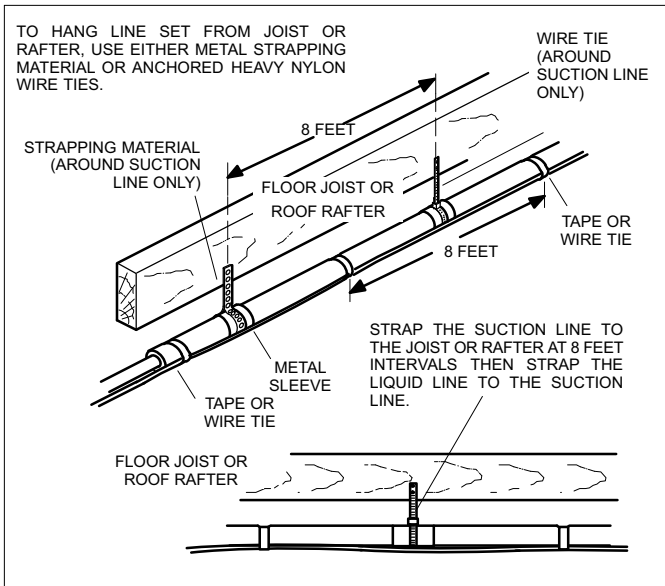

Figure 16. Refrigerant Line Set: Installing Horizontal Runs
- Installation of **line set on horizontal runs** is illustrated in Figure 16.